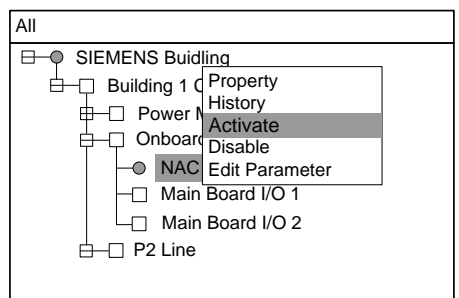

Fig.13-4
3. Press “→” to pop out a shortcut menu (Fig.13-4). Use “↓” to select “Activate” and press “OK” to activate the selected equipment.